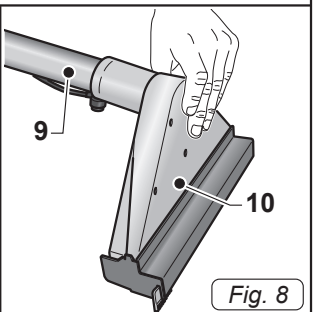

Fig. 8
- Insert the floor nozzle (10 Fig. 8) into the tube (9 Fig. 8).